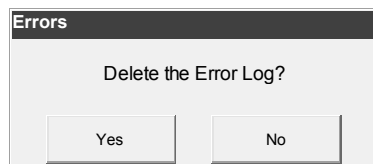

Fig. 7-54 Delete Error Log
- Confirm your choice by pressing  **Yes** in the **<Delete the Error Log?>** screen (Fig. 7-54).